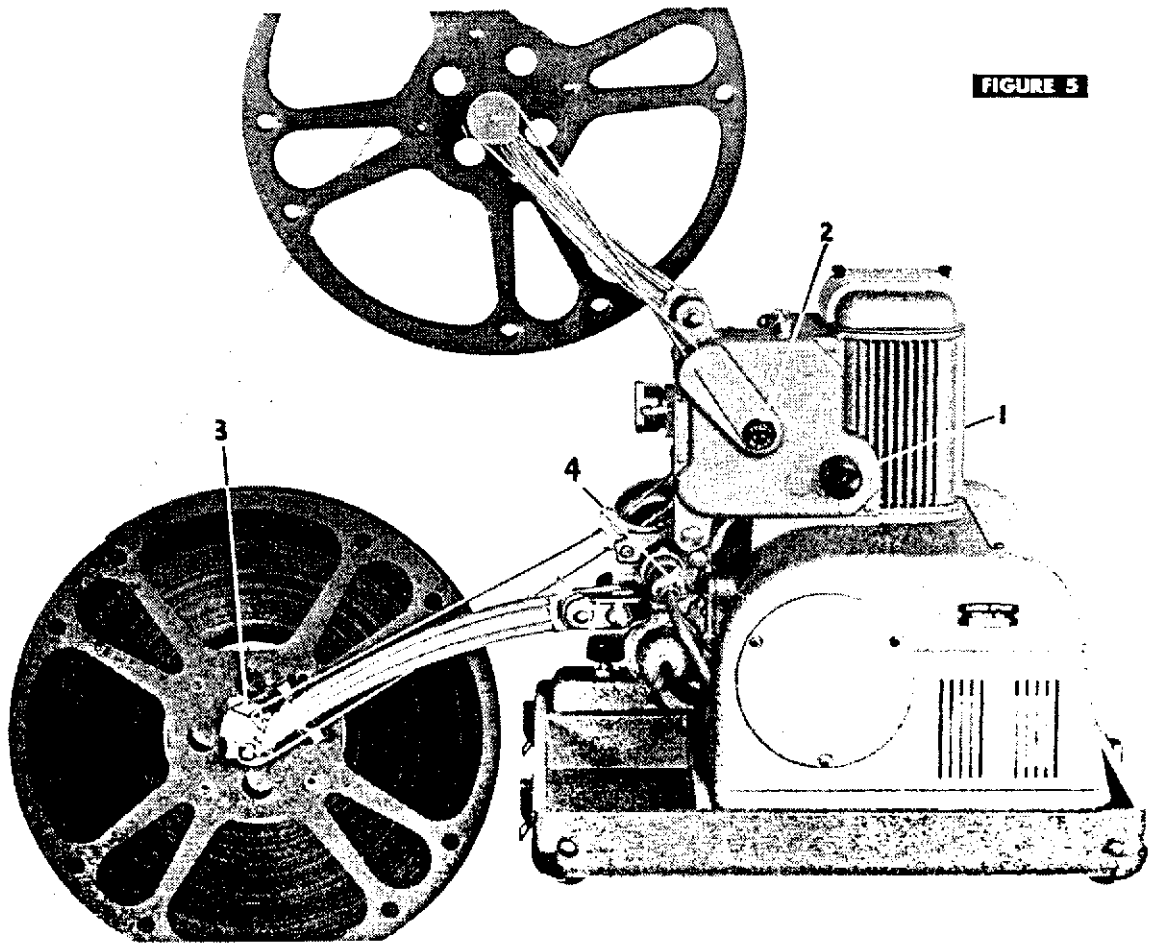

FIGURE 5
14. Rotate the Manual Adjusting Knob (1 Fig. 5) so that the top surface of the knob is turned toward the screen and make sure that the upper and lower loops are maintained. (If not, re-check threading.)
(See Fig. 5)
1. Thread the film from the lower reel to the upper reel as indicated. Insert the loose end of the film in a slot in the upper reel and turn the reel clockwise (as viewed in Fig. 5) two or three turns to wind up the slack in the film.
3. Push in the rewind clutch (2) and after approximately 150 ft. of film have been rewound, move the belt shifter (3) to the maximum clockwise position as indicated in Fig. 5.
5. Rotate the belt shifter (3) to its maximum counter clockwise position.
- c. **Photocell**—Loosen the insulator clamp screw (4 Fig. 5) and slide the socket insulator back along the photocell cable, then unscrew the socket ring and pull out the socket and photocell.